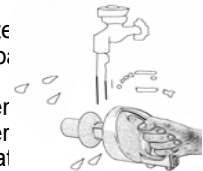

Fig. 12
- To separate the debris screen from the dust cup, hold the dust cup in one hand and turn the dust cup cover count clockwise and pull up. To clean the debris screen, we recommend that you rinse it under lukewarm running water to remove the dirt that accumulates on it, but always allow it to completely air dry before inserting back into the vacuum. (Fig. 12)